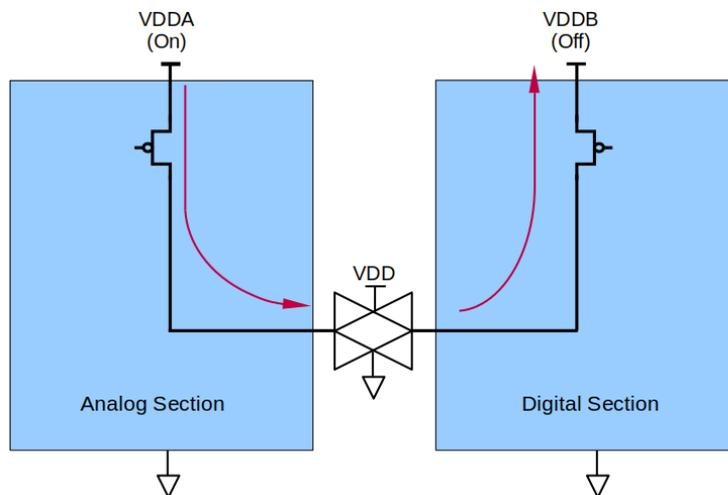

Figure 2: An example of inter-domain leakage from an "on" domain into an "off" domain.
- The values of power rails can be a fixed voltage, a range of voltages, or possibly switched off. Note that "off" is different from "zero volts:" a 0V rail still acts as a voltage source, whereas an "off" supply doesn't source or sink current, and can have its voltage affected by adjacent nets. Figure 2 below shows leakage from an "off" rail to an "on" rail.
The Domain Leakage check has three different types of violations that it reports, depending on the situation: "leakage into off domain," "leakage into low-voltage domain," and "leakage through ESD clamps". This scan looks for diodes that provide a leakage path from a positive current source into a current sink at a lower value. An excellent example of this type of leakage is shown above, in Figure 2.